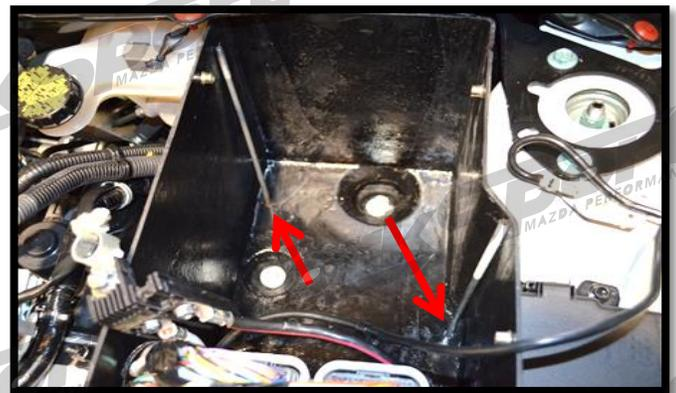

Figure 3b
- c) Insert the battery tie down L-Bolts into the holes. (Figure 3b)
- c) Locate the two small offset holes in the bottom of the box and insert the battery tie down L-Bolts into the holes (Red Arrows in Figure 3b)